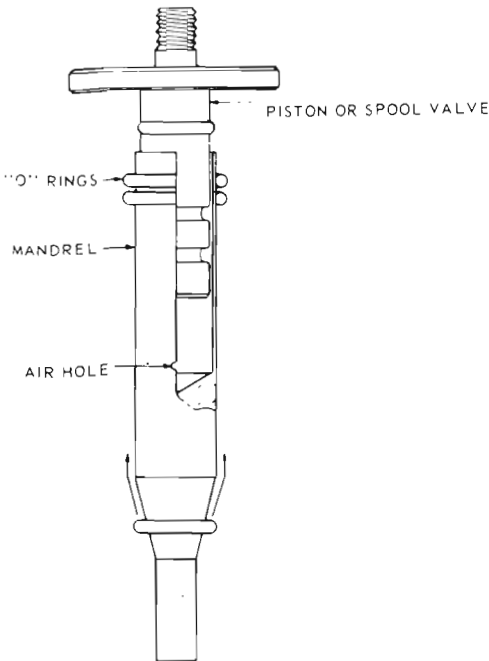

Figure 3
3.5.4 Where multi "O" ring arrangement is used, a thin wall type mandrel can be used to insert "O" ring into its groove to prevent damage possible if "O" ring is pushed over adjacent groove. Figure 3 illustrates a typical design. The supply of "O" rings kept on mandrel must not exceed daily requirements to prevent permanent stretch. In addition, precaution must be used to protect against contamination from dirt and other foreign matter damage to "O" rings and lubricant.